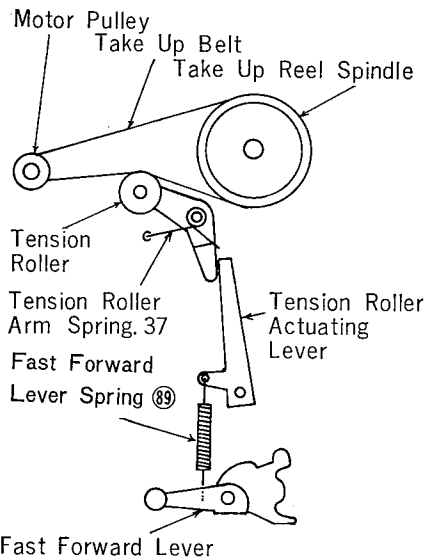
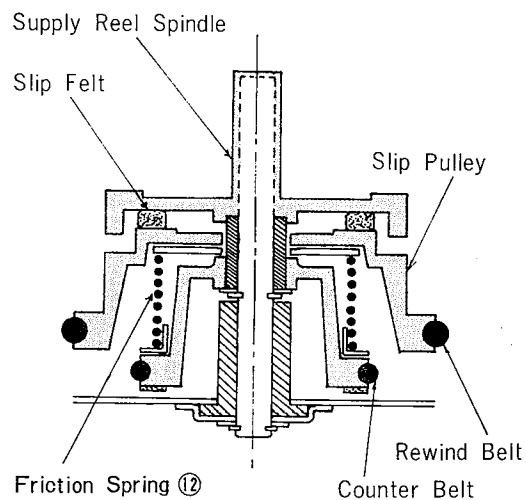

Figure 13
Figure 14
- B. If torques are not within the above ranges, make the following adjustments. (Refer to Figure 13 and Figure 14)
- a. If the torque at forward play mode is too strong, loosen or replace Tension Roller Arm Spring (37) and if too weak, tighten or replace it.
- b. If the torque at fast forward mode is too weak, tighten or replace Fast Forward Lever Spring (89).